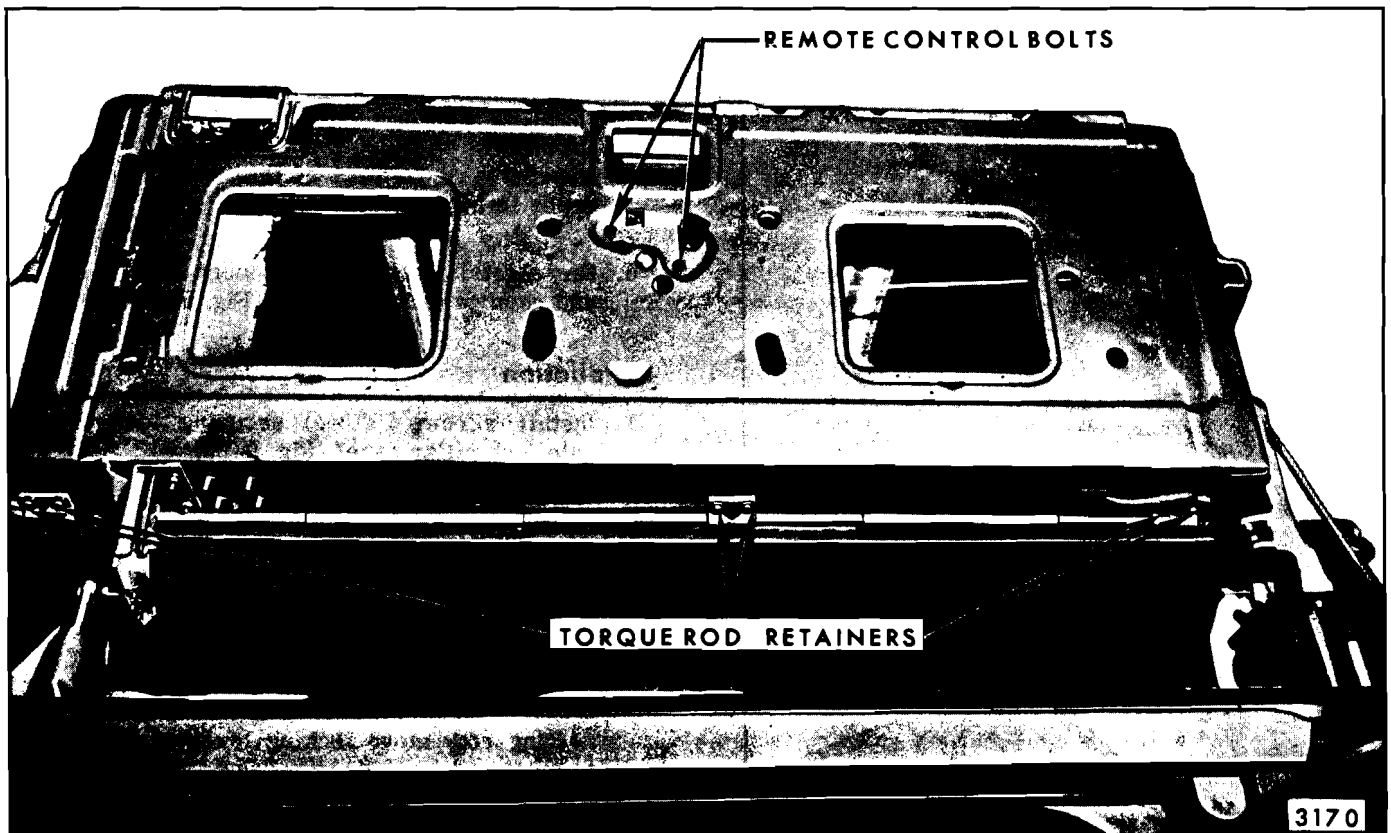

Fig. 9-22—Dual Gate Torque Rod Retention
4. Remove remote control to tail gate inner panel attaching bolts (Fig. 9-22).